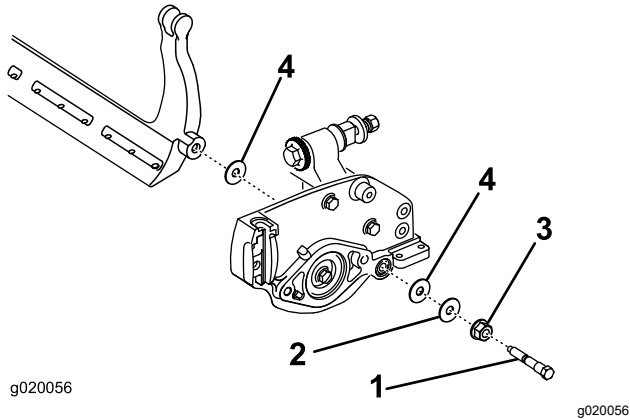

**Figure 18**
3. On each side of the machine, loosen the locknut securing the bedbar bolt (Figure 18).
4. Remove each bedbar bolt allowing the bedbar to be pulled downward and removed from the cutting unit (Figure 18).